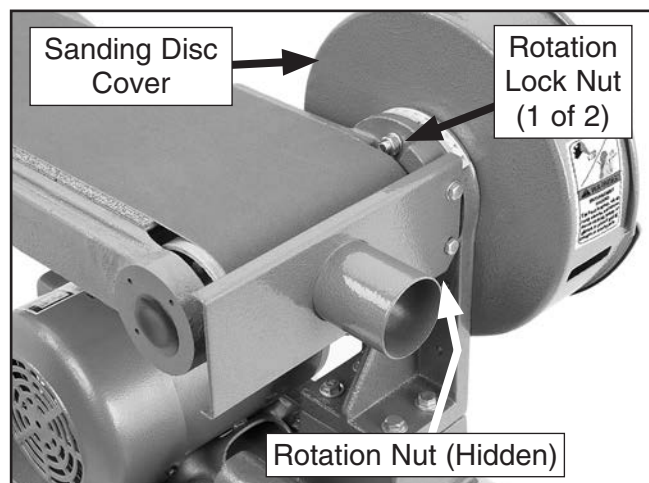

Figure 53. Table tilted to horizontal position.
- Loosen the sanding frame rotation lock nuts (behind the sanding disc cover), rotate the frame to the horizontal position, as shown in **Figure 53**, then tighten the rotation lock nuts.